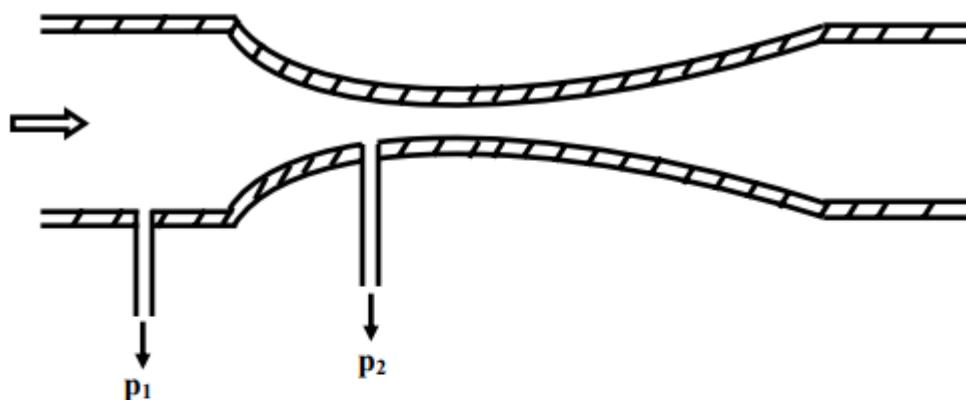

Fig. 4 Venturimeter
- The construction of a venturimeter is shown in fig.4. Here it is so designed that the **change in the flow path is gradual**.